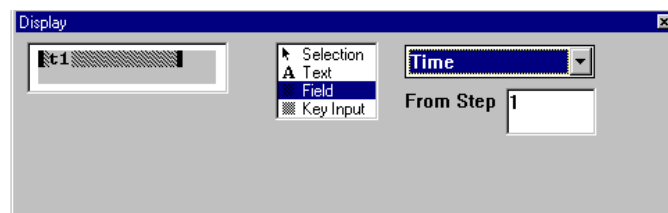

Figure 2-54 Display - Time Field Object
8. The field object indicator changes from **i1** to **t1** (Figure 2-54). A **t1** indicates that the time from the Step 1 Input Handler will be displayed here.